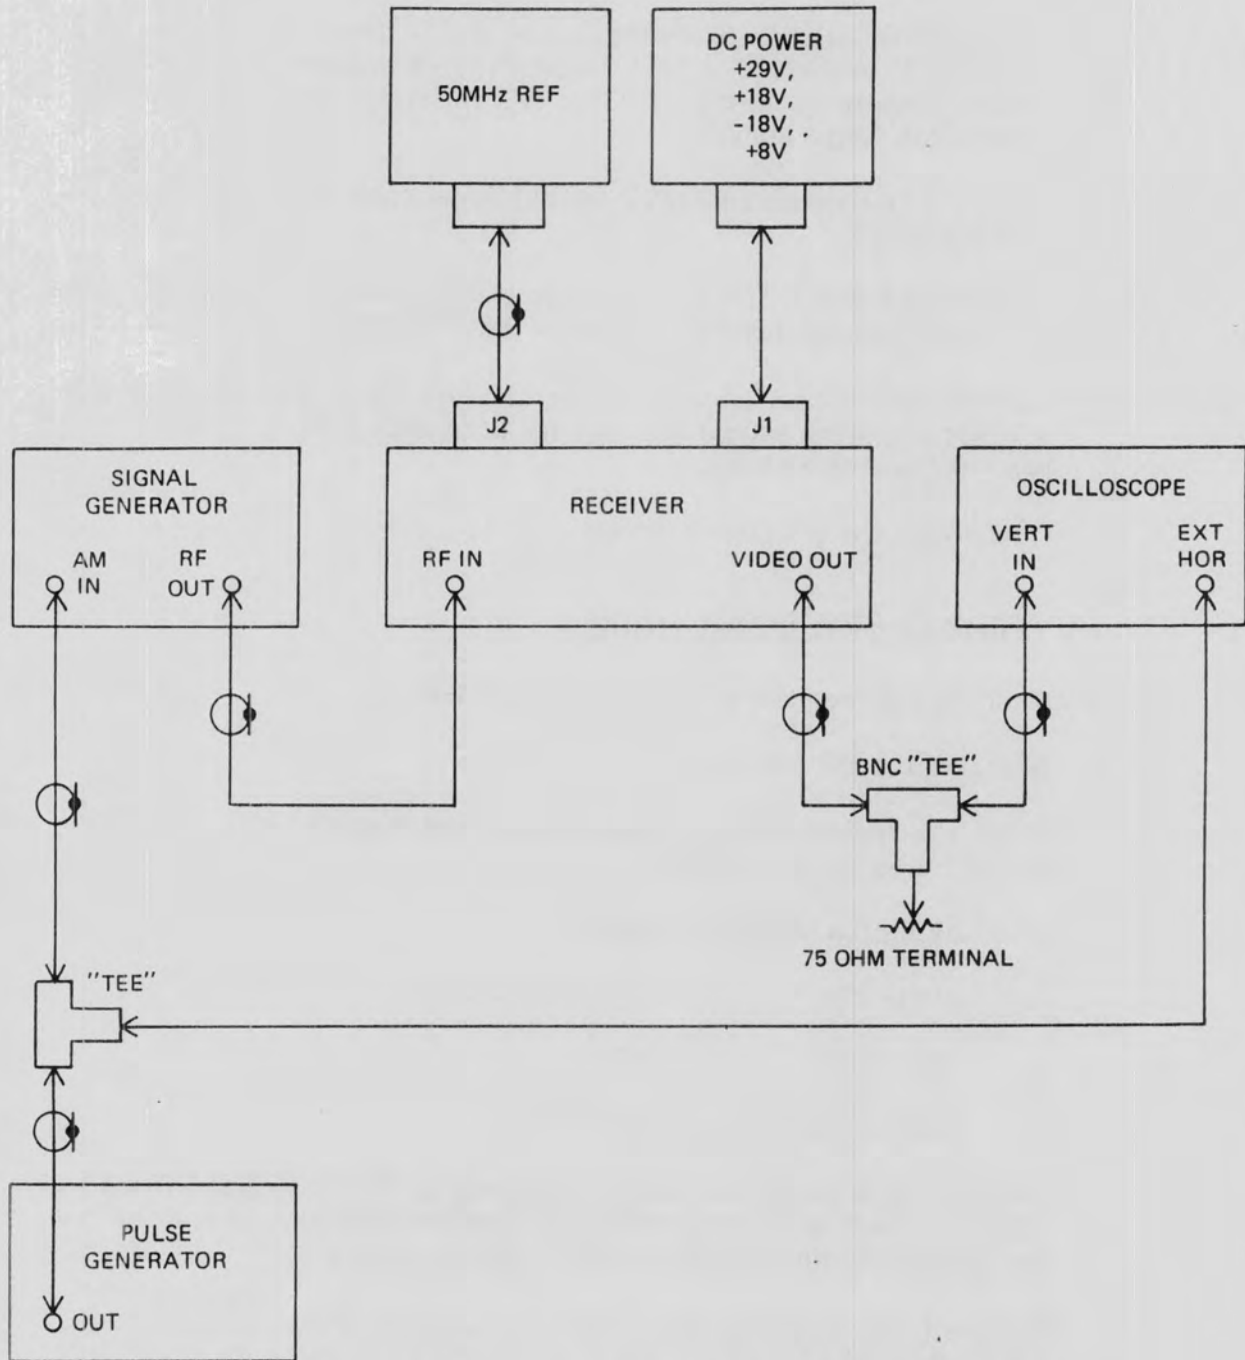

Figure 4-6. Gain Control (Pulse Mode) Test Equipment Setup
1. Connect the receiver as shown in **Figure 4-6**.